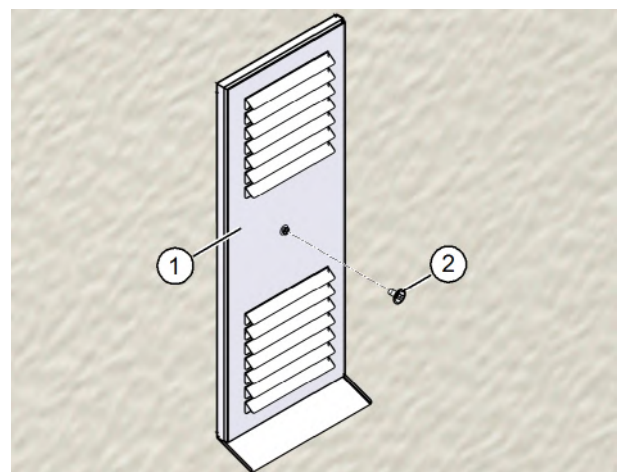

Fig. 20: Fixing the cover
- ▶ Correctly position the cover (item 1 in Fig. 20) on the base plate.
- ▶ Use the hexagon socket screw to fix the cover (item 2 in Fig. 20).